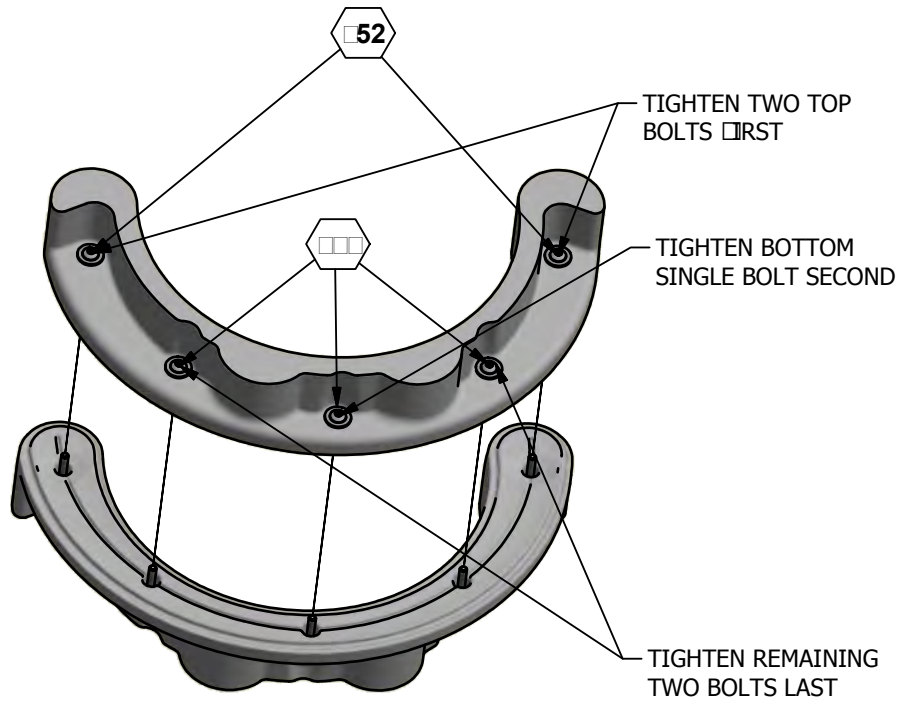

FIGURE 1
STEP 7: Starting at the top section, tighten the five bolts with a wrench. Tighten the top two bolts first, the bottom single bolt second, then the remaining two bolts as shown. **SEE FIGURE 1.**